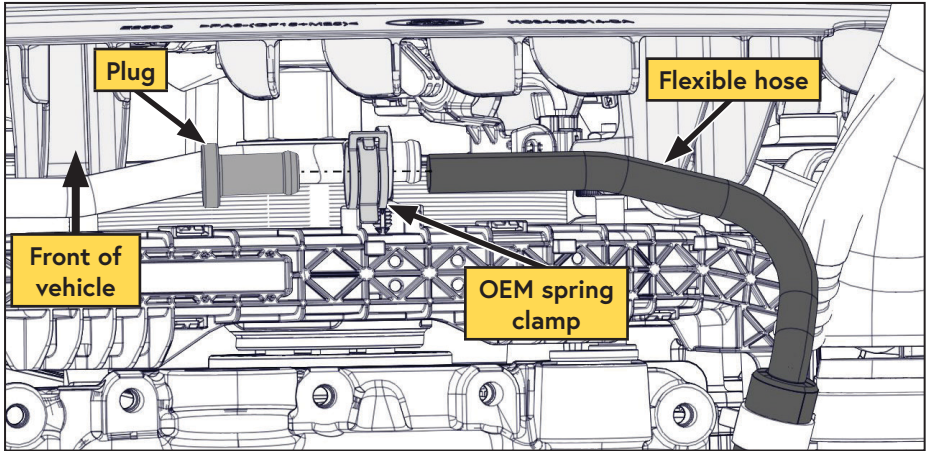

Figure 10 — Plug the flexible hose
- Insert the supplied aluminum plug into the flexible hose section and secure using the OEM spring clamp (Figure 10).